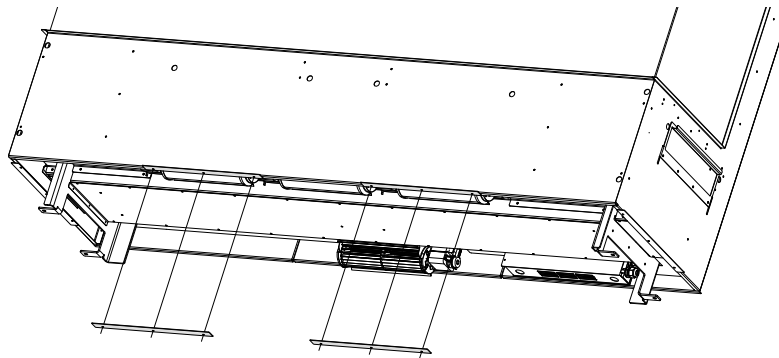
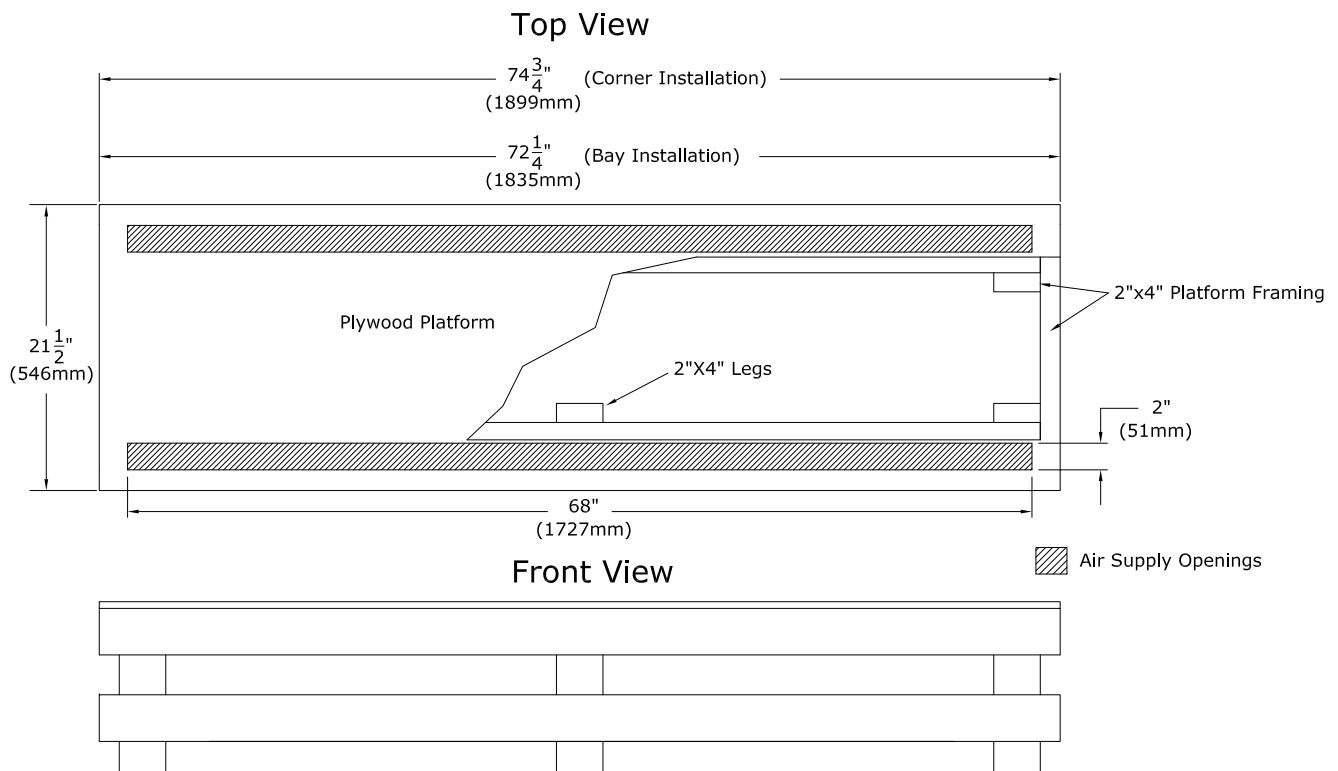

Figure 1.11 - Finishing Bracket Removal
Figure 1.12 - Elevated Platform Air Openings
- If you want the air intake opening to be at the floor you can follow the illustrations in Figure 1.9, Figure 1.11, and Figure 1.12. See more information on the following page.
Requirement #2 - When you construct the fireplace platform follow Figure 1.12. You will leave two 2" x 68" (51mm x 1727mm) openings (one in front and one in back) in the platform base for air supply to the fireplace. These openings feed the front and back fans that cool the safety glass and fireplace chamber. See Figure 1.12.
We have an option where you can visually hide the air intake. You would install an overhang over the air intake opening. A way to achieve this would be to create a floating hearth. Depending on your desired height of the fireplace, the platform may raise the air intake opening higher than you want. Follow the requirements in Section 1.7 (Specifically Figure 1.11 and 1.12) for an air intake raised off the floor to meet the requirements in this section.